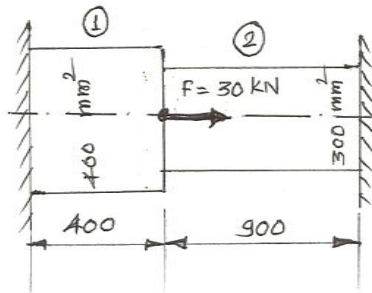

Fig. 9
- B A load Member is as shown in fig. 9. The loading is initially done at 20°C. 10